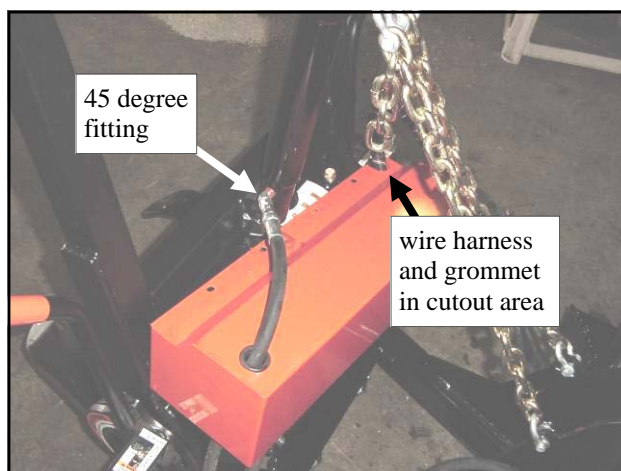

Fig. 8.6 (view of passenger's side)
8.6 Per fig. 8.6, orient the pump cover as shown. Feed the "lift" hydraulic hose (the shortest hose, and the only one left) through the rubber grommet in the pump cover and connect to the 45 degree fitting on the lower portion of the single-acting lift frame hydraulic cylinder. The hose ports are stamped right into the aluminum block of the manifold. Confirm that this last hose is associated with port L. Tighten the 45 degree fitting at this time. On the other end of the pump cover, place the loose factory installed protective grommet that is on the wiring harness into the open-ended slotted cutout in the sheet metal pump cover. Leave the pump cover loose and unbolted until step 12.5 on page 14.